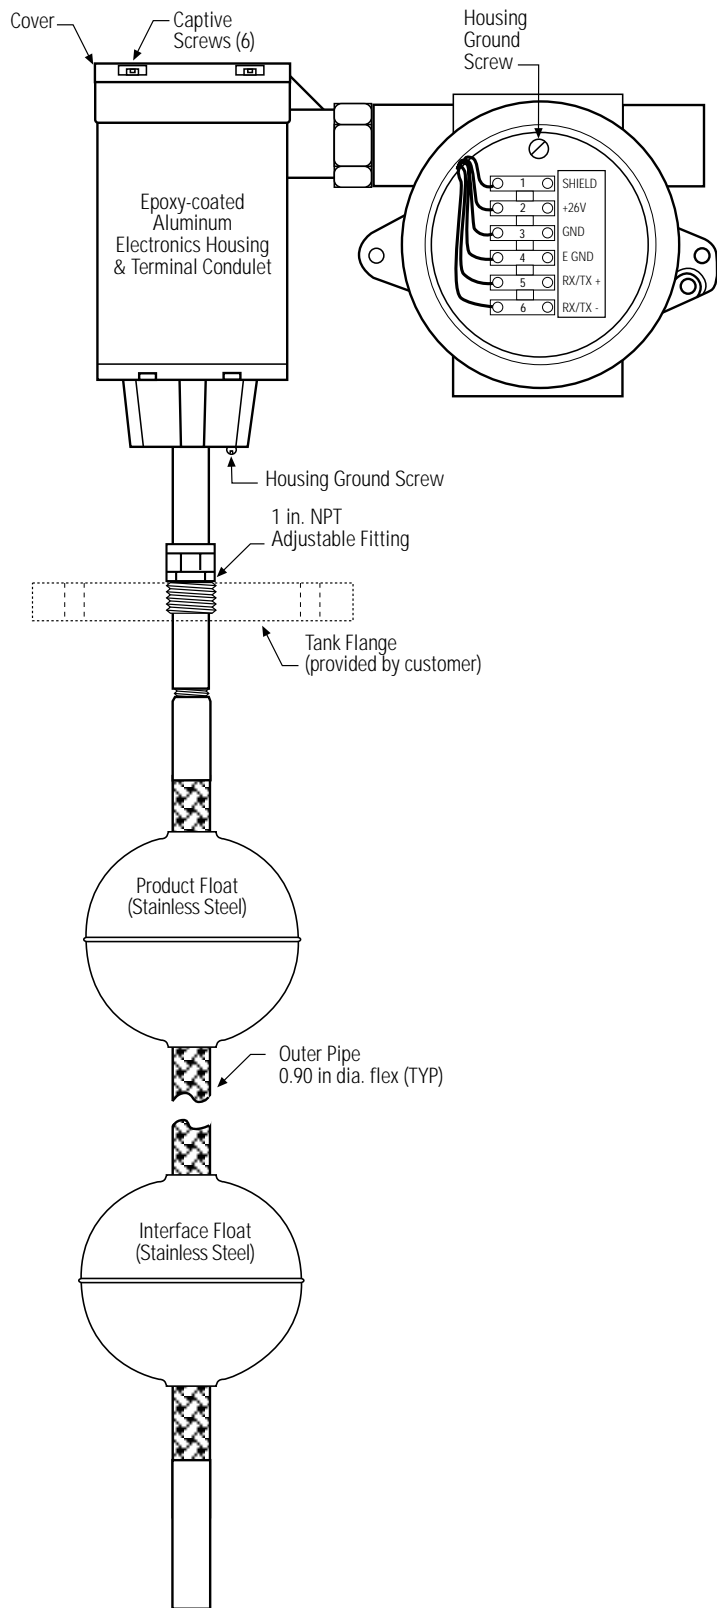

Figure 4.6 Flange and Float Installation
2. Slide the product float onto the flexible pipe. See Figure 4.6.
3. Slide the interface float (optional) onto the flexible pipe with letters as shown facing the top of the pipe (see Figure 4.6). Do not drop the float(s) or allow them to free fall along the flexible pipe as damage may result.